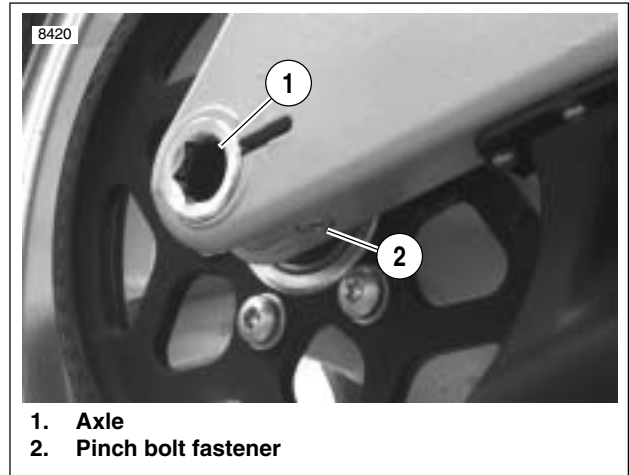
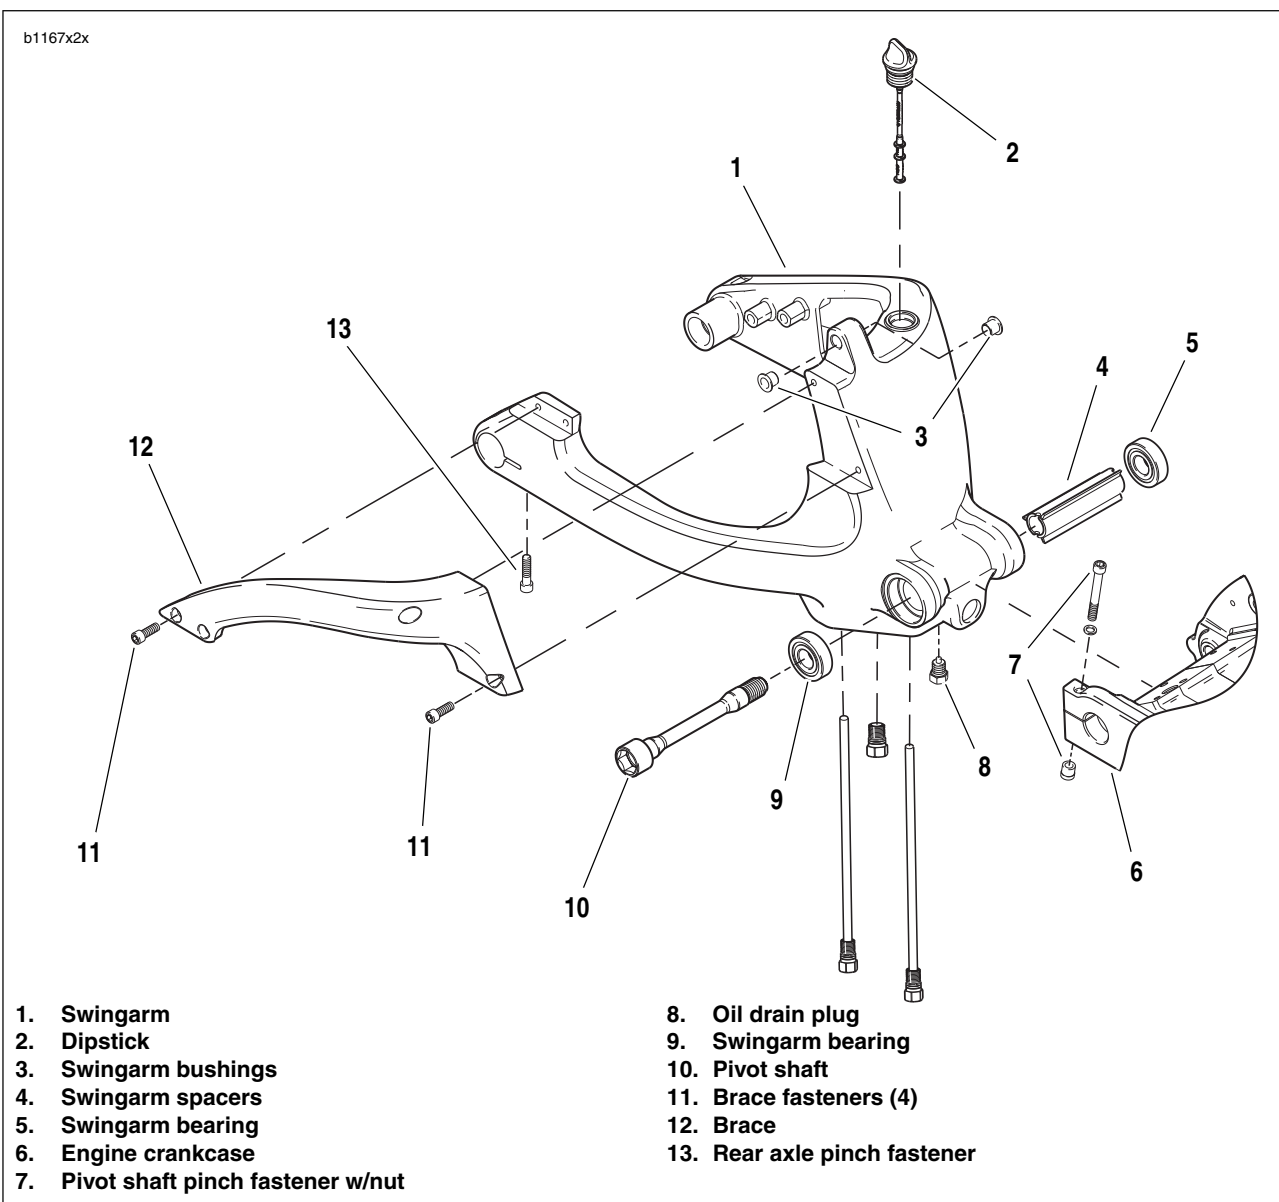
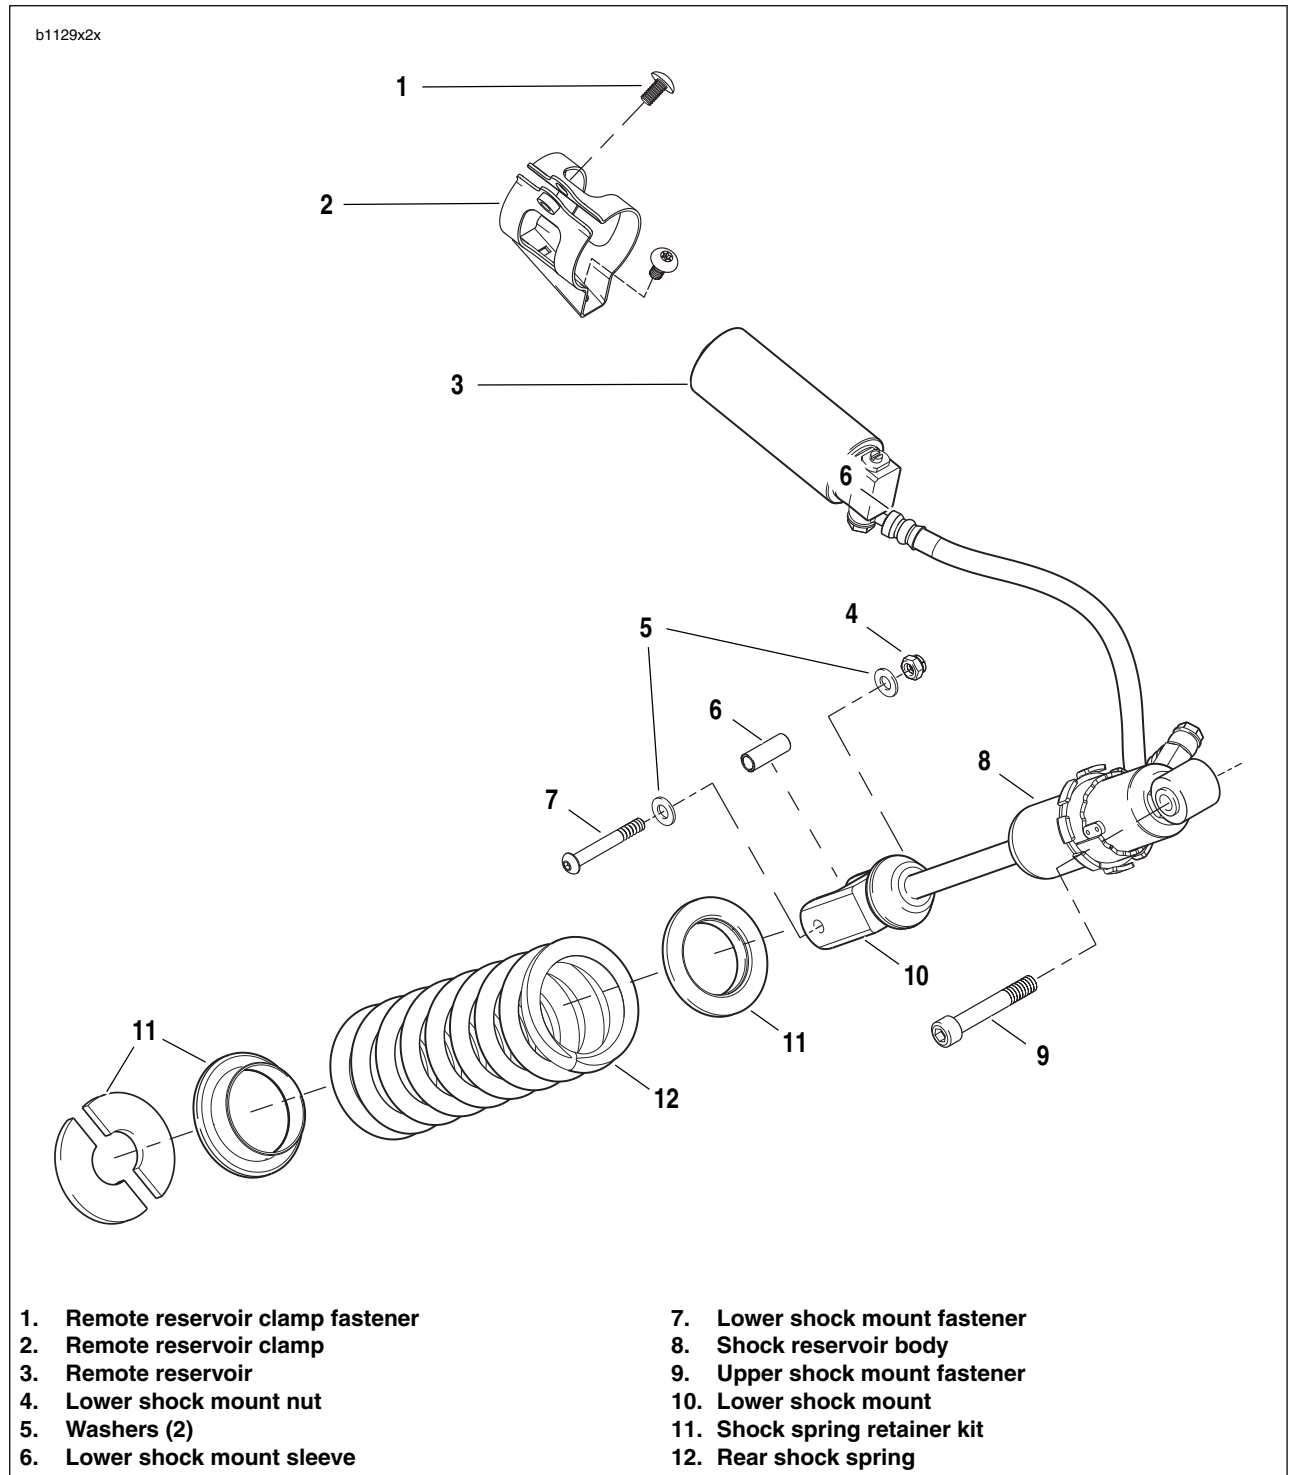

Figure 2-81. Rear Wheel Mounting, Right Side
Figure 2-83. Swingarm Assembly
Figure 2-89. Rear Shock Absorber Assembly
2. See Figure 2-81. Loosen rear axle pinch fastener (2).
3. Loosen rear axle (1) approximately 15 rotations to allow partial tension to be removed from rear drive system.
4. See Figure 2-83. Remove swingarm brace mounting fasteners (11).
5. Remove swingarm brace (12).
3. See Figure 2-83. Remove oil drain plug (8) and drain oil from swingarm. See Draining Oil in 1.6 ENGINE LUBRICATION SYSTEM.
8. See Figure 2-83. Loosen pivot shaft pinch fastener (7).
9. Remove pivot shaft (10) with a special 7/8 in. hex tool located in tool kit.
2. See Figure 2-83. Remove swingarm bearings (5, 9) using slide hammer (SNAP-ON Part No. CJ1275 or equivalent) and 3/4 in. bearing remover and spacer.
3. Remove shock mount bushings (3) and sleeve.
See Figure 2-83. Remove swingarm bearings (5, 9) only if replacement is required. The complete bearing assembly must be replaced as a unit when replacement is necessary. Do not intermix bearing components.
1. See Figure 2-83. Install **new** shock mount bushings (3).
2. Install **new** bearings (5, 9) and spacer (4) with BEARING INSTALLER (Part No. HD44060) by lightly seating spacer.
4. See Figure 2-83. Install drain plug (8). Tighten to 29-31 ft-lbs (39-42 Nm).
1. See Figure 2-83. Align swingarm (1) in pivot of engine crankcase (6).
2. Install pivot shaft (10) with a special 7/8 in. hex tool located in tool kit, ANTI-SEIZE and tighten to 24-26 ft-lbs (32-35 Nm).
3. Tighten pivot shaft pinch fastener (7) to 17-19 ft-lbs (23-26 Nm).
4. See Figure 2-89. Install lower shock absorber mounting fastener (7) and spacer from shock absorber and swingarm and tighten to 15-17 ft-lbs (20.3-23 Nm).
3. See Figure 2-83. Install swingarm brace (12) with swingarm brace mounting fasteners (11) loosely. Do not tighten.
4. Tighten swingarm brace fasteners (11) to 25-27 ft-lbs (34-37 Nm).
6. Tighten rear axle pinch fastener (13) to 40-45 ft-lbs (54-61 Nm).
1. See Figure 2-89. Install rear shock assembly in upper shock mount
2. Install fastener (9) and tighten to 49-51 ft-lbs (66-69 Nm).
3. Install lower shock mount with fasteners (4, 5, 7) and lower shock mount sleeve (6) and tighten to 15-17 ft-lbs (20.3-23 Nm).